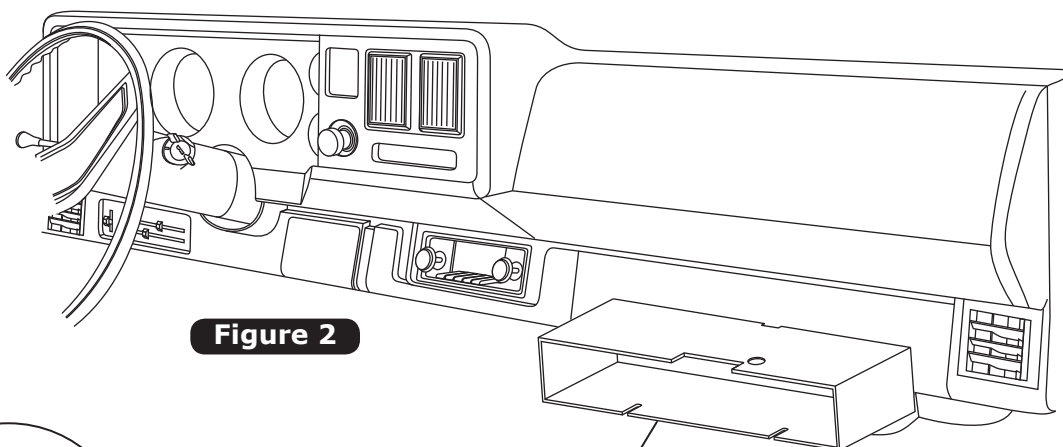

Figure 2
2. Remove the glove box (discard) (See Figure 2, below). Retain the screws.